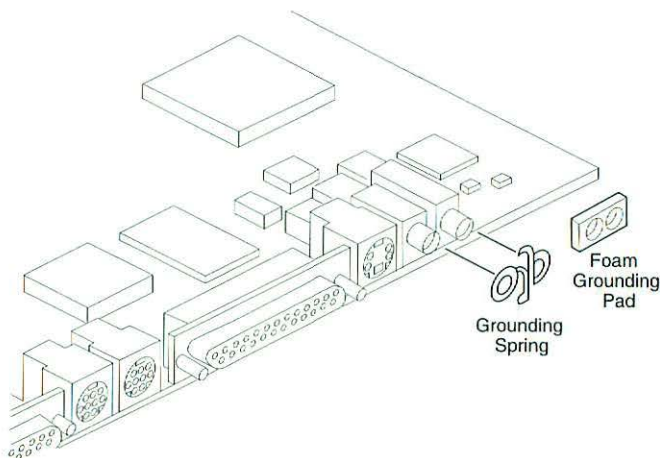

Figure 2 Grounding Spring and Foam Grounding Pad
Install the connecting grounding spring on the audio ports of the replacement logic board with the arms of the spring facing out. Install the foam grounding pad on the audio ports with the rough side of the pad facing out (Figure 2).
2. Before installing the upgrade logic board, install the connecting grounding spring on the audio ports of the board with the arms of the spring facing out (Figure 2). The upgrade kit does not include a connecting grounding spring. You must order this part separately.